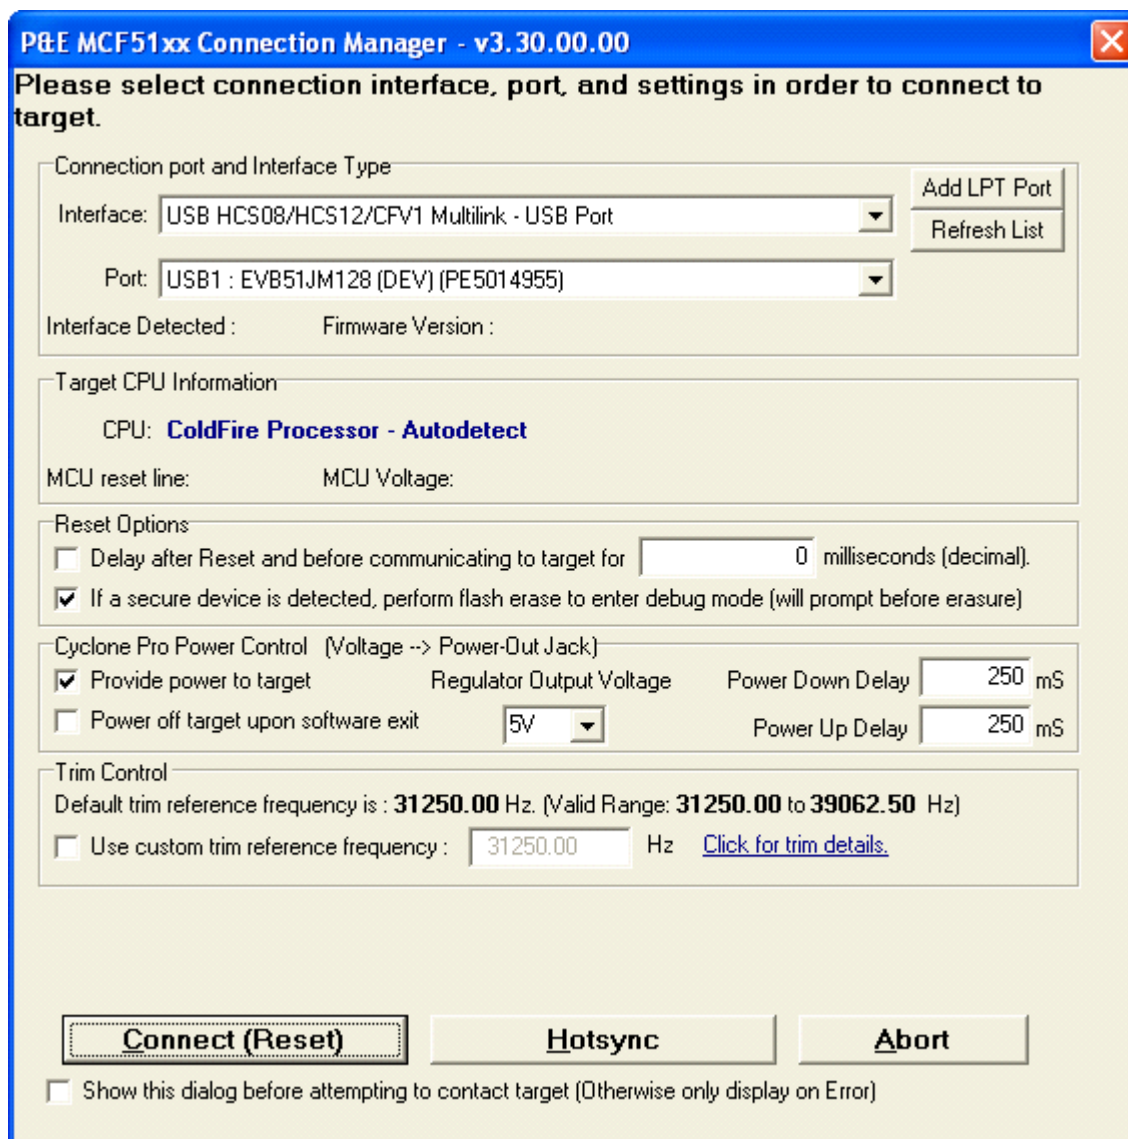

Figure A-5. Connection Manager
2. Click **Connect (Reset)** button to connect to the hardware, as shown in Figure A-5.